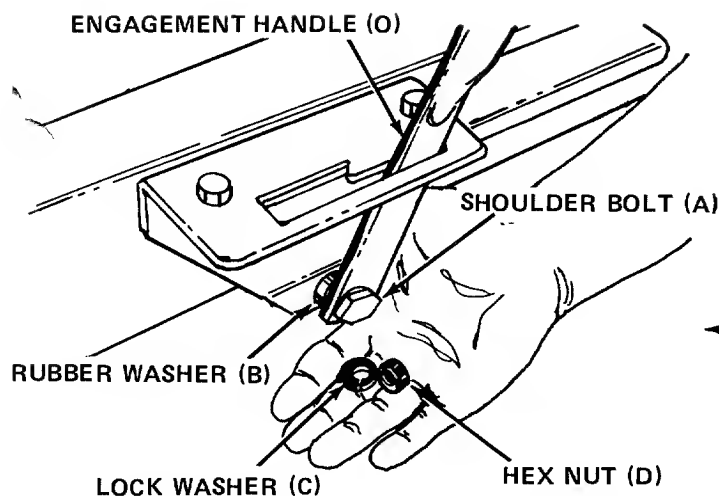

FIGURE 7
9. Place the flattened end of the engagement handle (O) down through the slotted bracket beside the beam. Place shoulder bolt (A) through the bottom hole in engagement handle. Place rubber washer (B) on shoulder bolt. Secure to bracket with lock washer (C) and hex nut (D). See figure 7.